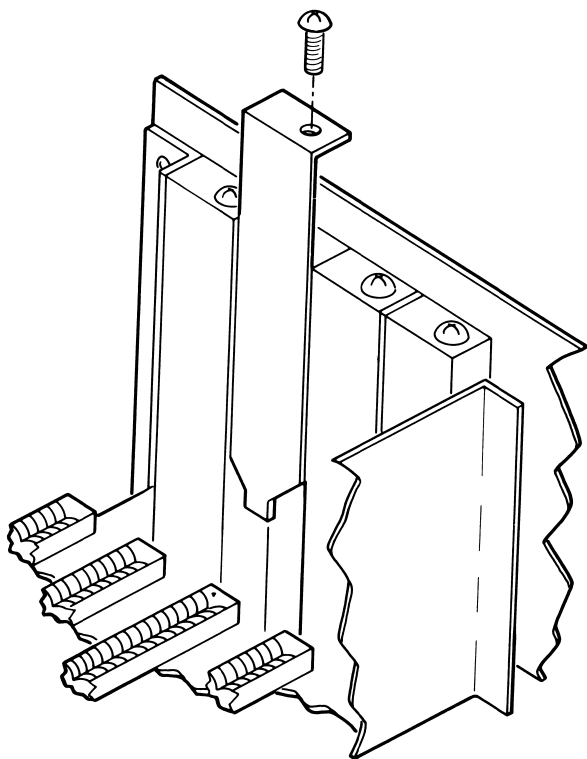

Figure 5-11. Removing an Expansion Slot Cover
2. Remove the expansion slot cover as shown in Figure 5-11. Save the screws. All expansion slots are the same and you may choose any one that is not in use.